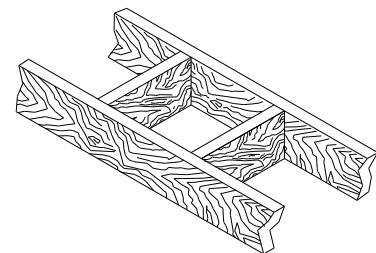

Figure 25
1. Cut and frame the holes in the ceiling, floor and roof where the chimney will pass (see figure 25). Use a plumb bob to line up the centre of the holes. The sizes are indicated in table 1 for the floor and ceiling holes and table 2 (page 24) for the roof holes.